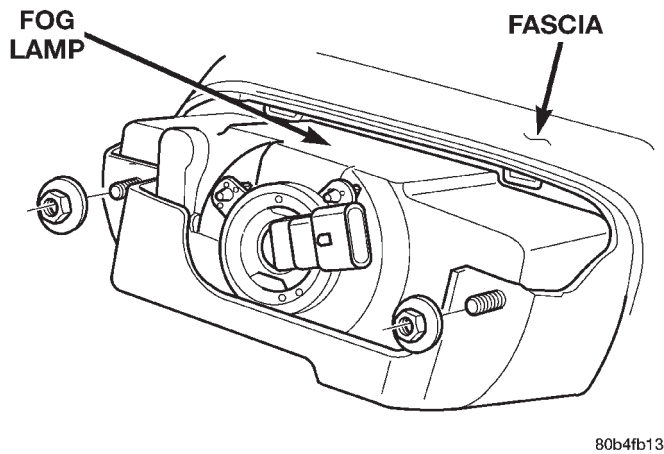

Fig. 3 Fog Lamp
- (1) Disengage fog lamp electrical connector.
- (2) Remove nuts attaching fog lamp to fascia (Fig. 3).
- (3) Separate fog lamp from vehicle.